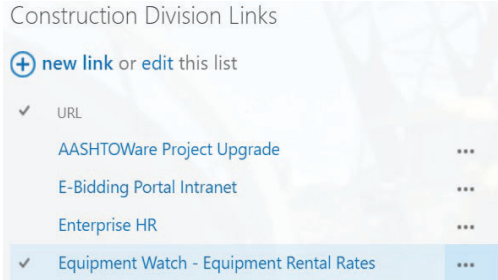

Figure 4-7: EquipmentWatch Link on SharePoint
1. Go to Construction Division SharePoint homepage. Under Construction Division Links, Click on the EquipmentWatch – Equipment Rental Rates link (Figure 4-7).